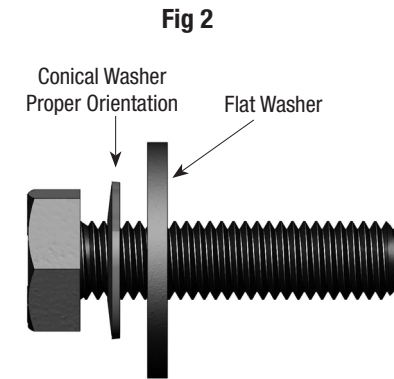

Fig 2
- 3) Prepare end bolts for assembly by placing the Conical Washer on the bolt first and then the Flat Washer. **Fig 2**